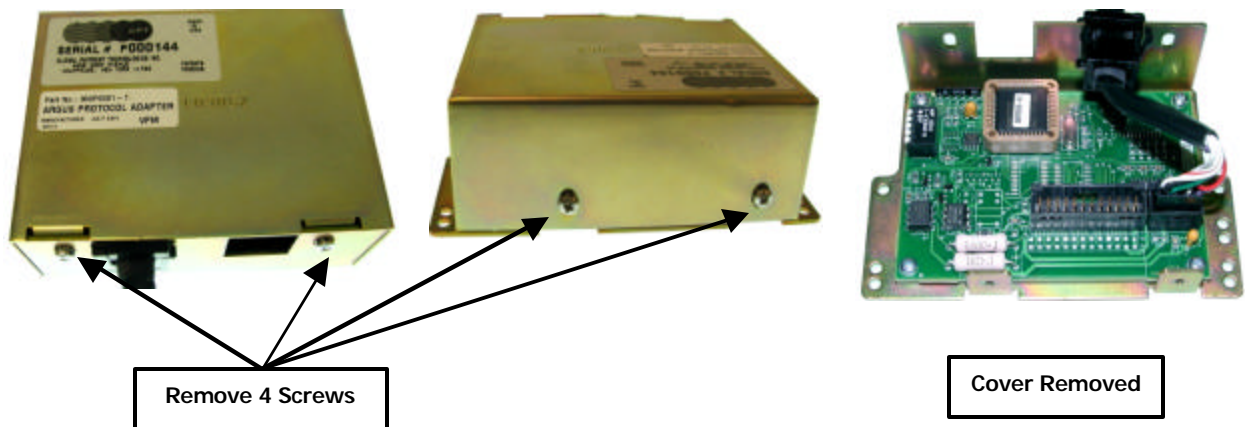

Figure 3. Protocol Adapter Assembly (Typical)
4. Remove and retain four screws that secure cover to PAA; remove cover by lifting it (**Figure 3**).